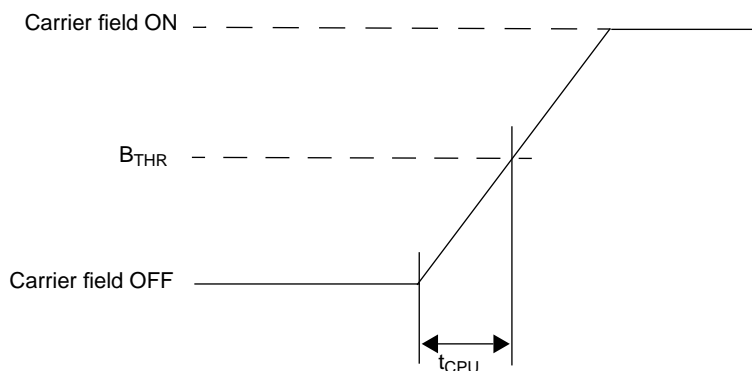

Fig.3 Definition of the Carrier Power-Up rise time.
3. The Carrier Power-Up rise time is the time required to establish a carrier magnetic flux density of B_{THR} , see Figure 3. For proper device operation the Carrier Power-up rise time must not exceed the specified value. B_{THR} is the minimum magnetic flux density required for transponder read operation.